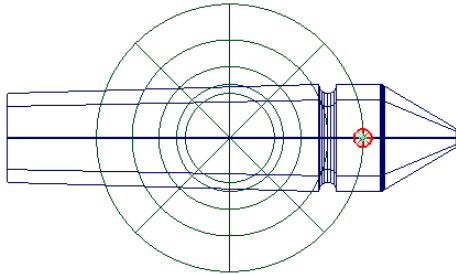
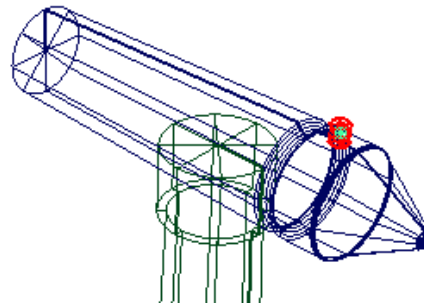

Figure 3-93 Blade joint after scaling
Figure 3-94 Blade joint displayed in the Perspective window
6. Enter **40** or a suitable value in the promptline and press ENTER; the blade joint is scaled to the specified scale, as shown in Figure 3-93. Figure 3-94 shows the scaled blade joint in the **Perspective** window.